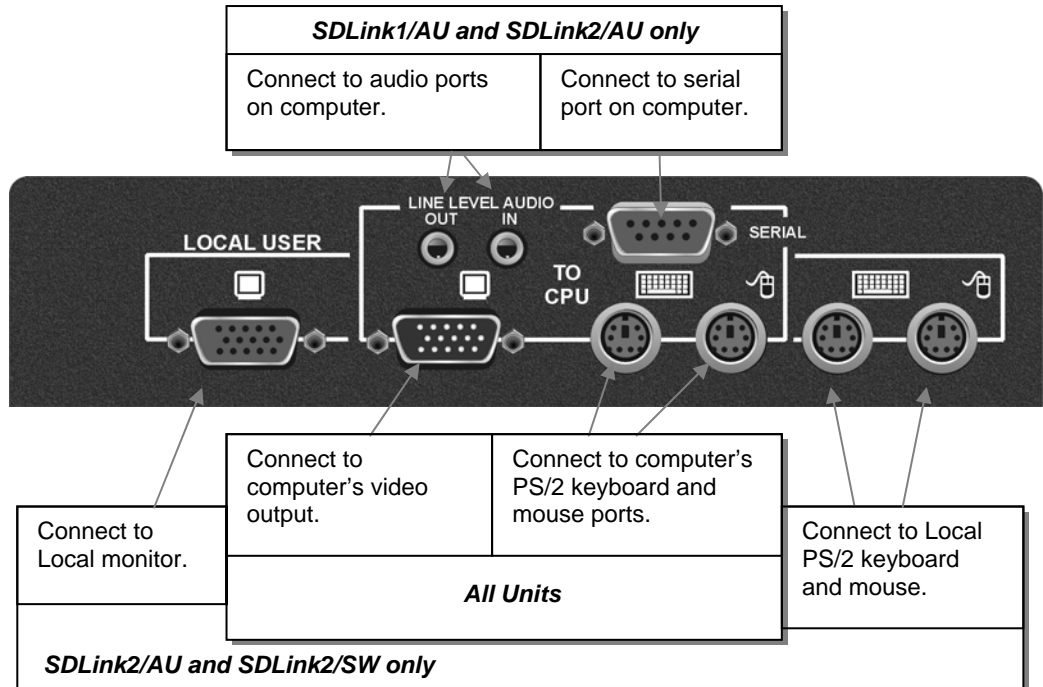

Figure 6 SDLink Local Unit - rear view
2. Using the supplied CPU KVM cable(s), connect the keyboard, monitor(s) and mouse connectors on the computer (or KVM switch) to the corresponding connectors on the Local Unit as shown in Figure 6.